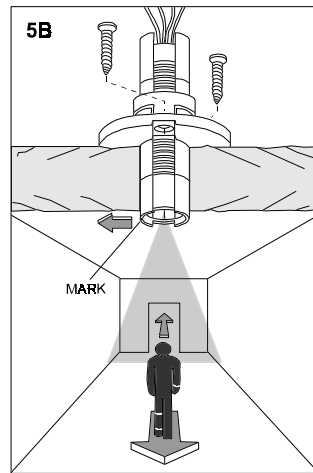

Figure 5B - Model SPY 4 Installation with Mounting Plate
Installation with Mounting Plate: Select a location that will place the curtain pattern in the direction of motion (Fig. 5B).
Step 6 - Prepare the mounting plate screw holes so they are in line with the anticipated direction of motion (Fig. 5B).
Step 7 - Install the detector unit, front end first, into the hole with the mark on the front **perpendicular to the path of travel** (Fig. 5B) and secure the mounting plate to the back of the ceiling with the screws provided.